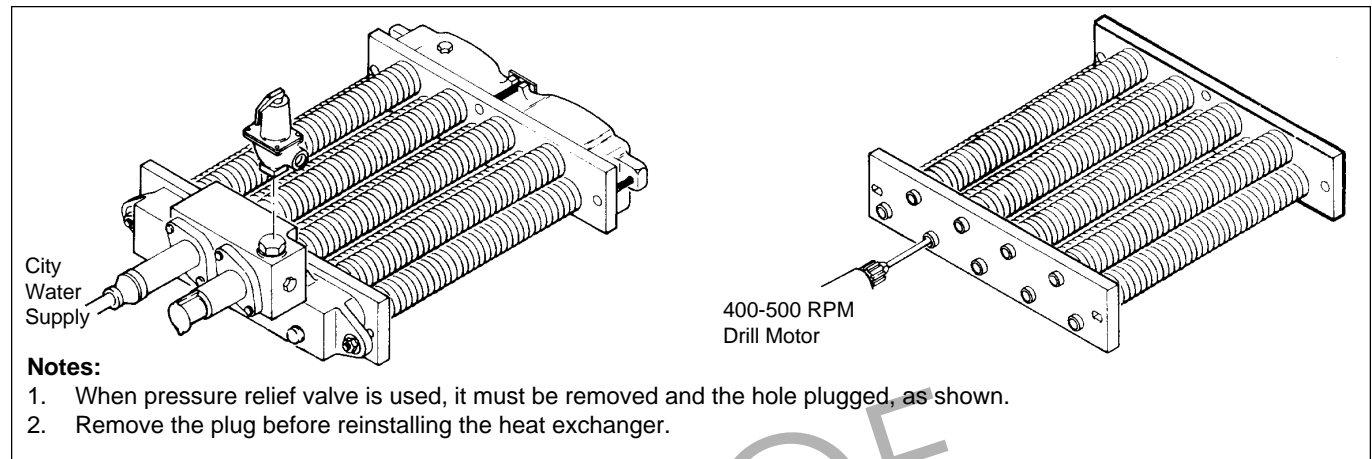

Figure 35. Heat Exchanger Tube Cleaning.
4. Ream the insides of the tubes (see Figure 35).